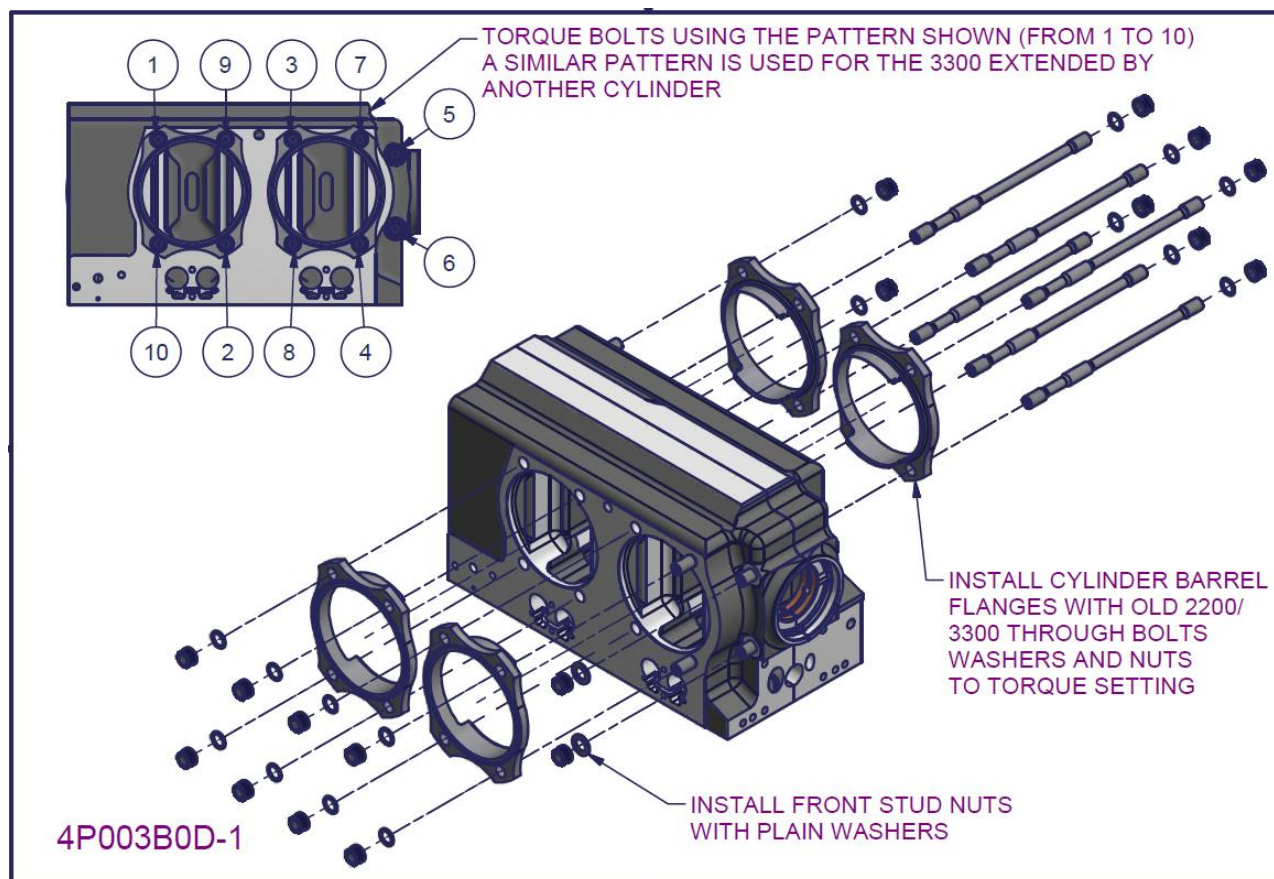

Figure 14 – 2200/330 crankcase subassembly 3
- Using the pattern shown in Figure 14, torque each nut up to 10ft.lb on both the left and right hand sides (this drawing above shows only the right hand side, the left hand side must also be torqued in the same pattern).